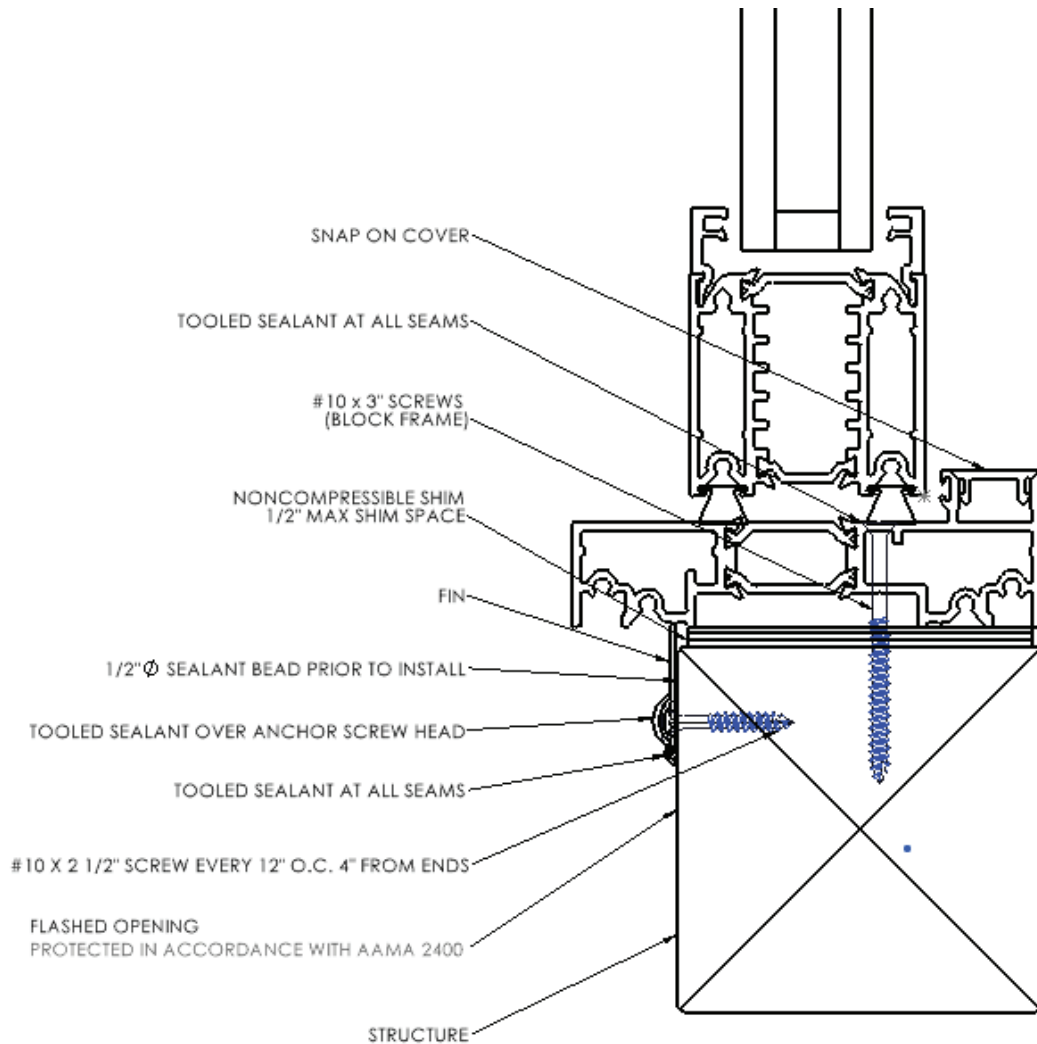

Figure 3
1. Through each jamb and head of the frame, drill a 3/16" diameter installation hole 6" from each end and every 16" on center thereafter See Figure 3.